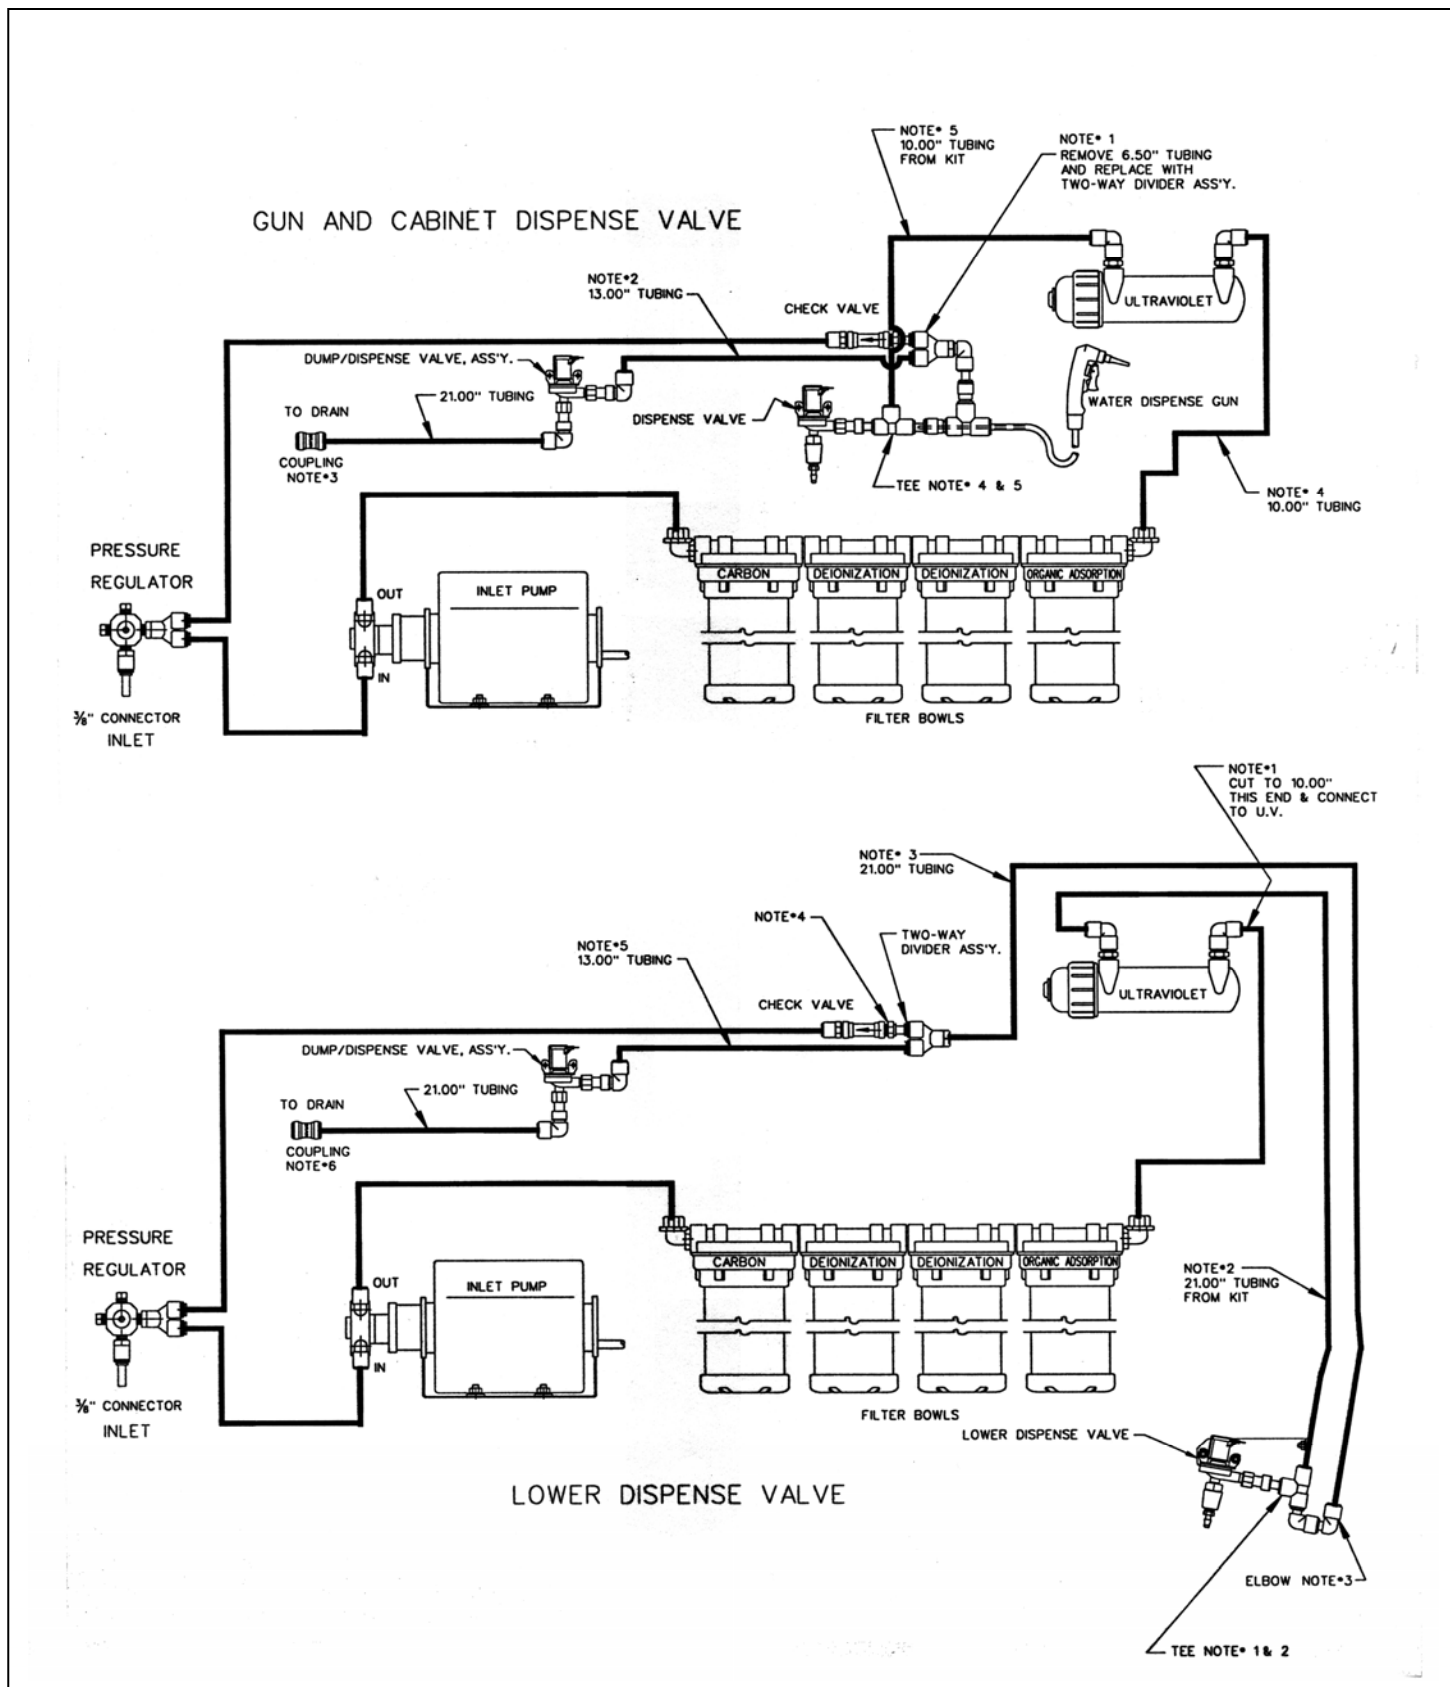

Figure 2
Plumbing - See Figure 2
1. Remove and discard 6.5" long tubing running from water dispense assembly to the check valve. Replace with the two-way divider assembly. Connect check valve to the two-way divider assembly. See figure 2.
5. Use 10" long tubing in kit with (2) tube supports and connect other side of U.V. lamp assembly to the tee that was just disconnected between the water dispense assembly and the dispense valve.
1. Disconnect and cut the 21" long tubing coming out of the organic adsorption filter housing at the lower dispense valve end to 10" long connect to the U.V. lamp assembly (using tube support). See figure 2.
3. Connect the 21" long tubing coming out of the lower dispense valve elbow to the two-way divider assembly. (Use tube support) See figure 2.